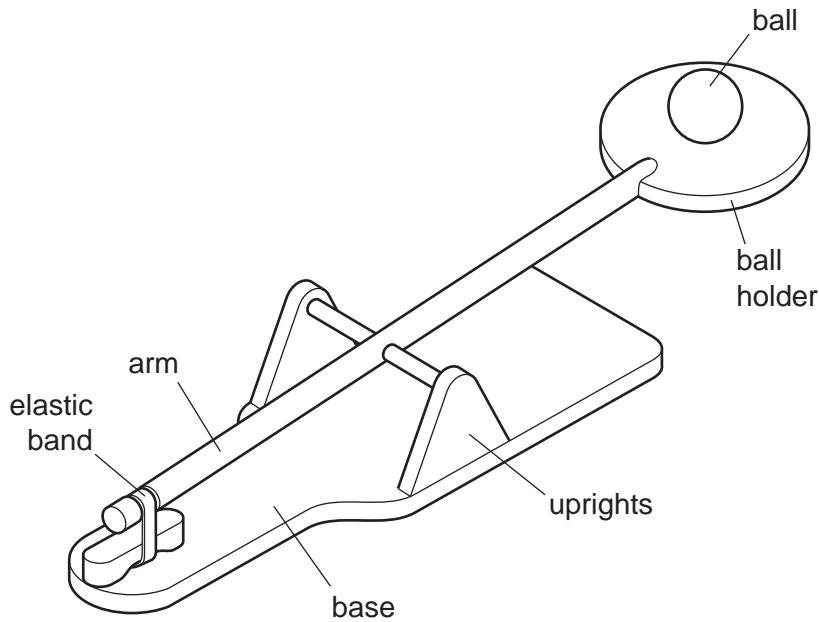

Fig. 8
- 12 Fig. 8 shows a device for launching a ball.
- (ii) On Fig. 8 label the load, effort and fulcrum for the lever when the ball is launched.